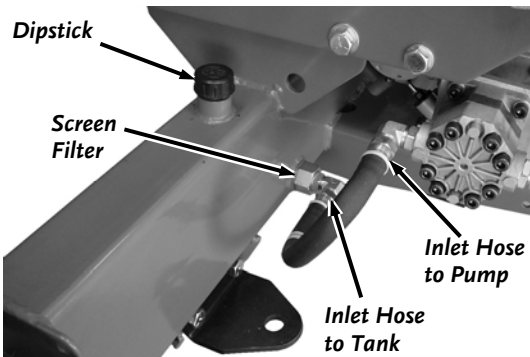

Figure 33
- Disconnect the Inlet Hose at the Pump Elbow using an Adjustable Wrench and lower the Hose to drain the Fluid into the Container (**Figure 33**).
- Remove the Hydraulic Fluid Dipstick from the Hydraulic Tank (**Figure 33**).